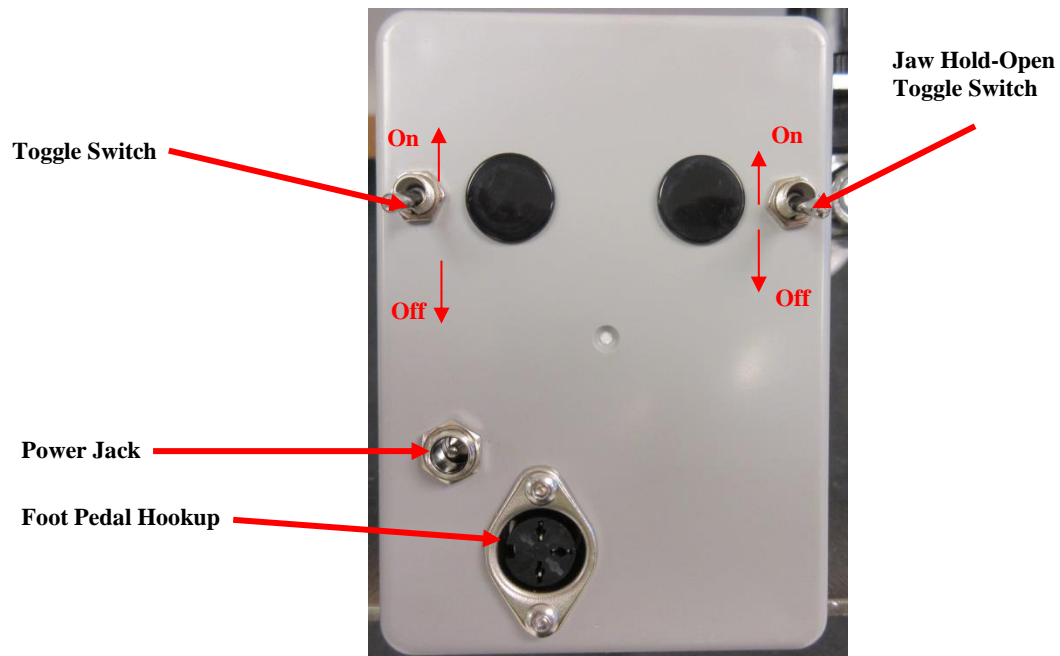

Figure 2.3.1
- Setting up the connections on the CRD221 is a simple task. Refer to **Figure 2.3.1** below when making all connections to the back panel.
- With A/C power and compressed air attached to the expander, actuate the electric foot switch which will activate the expander. Adjust the expander lower jaw to the position you want using the **Thumb Wheel Knob**. Note that the jaws may be set to remain in the “open” position using the toggle switch noted in **Figure 2.3.1**, and triggering the foot pedal. Make sure the toggle switch is returned to the “off” position, or the jaws will remain open.